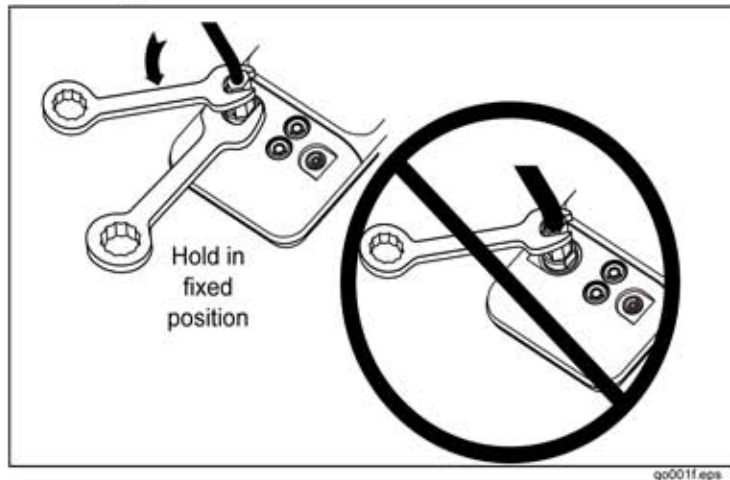

Figure 1. Proper Tightening Method
- To avoid damaging the Calibrator, do not apply torque between the pressure fitting and the Calibrator case. See Figure 1 for the proper technique.